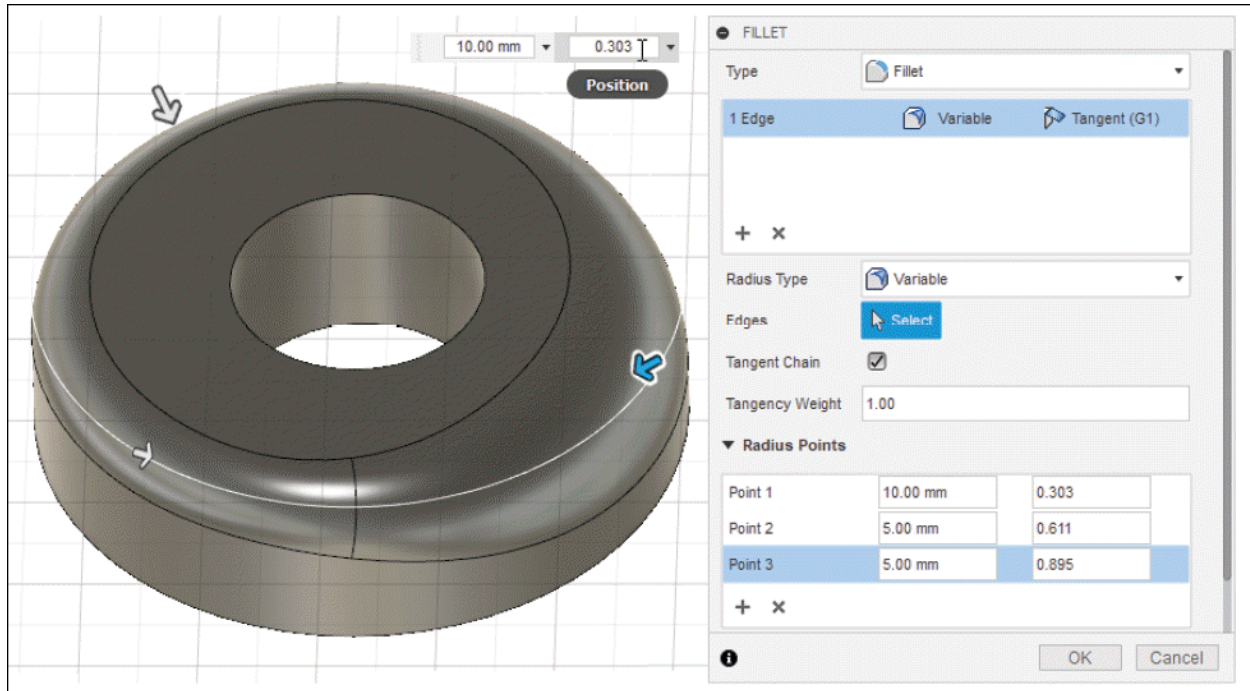

Figure-12. Preview of variable radius type
- Click on the edge to create points for applying fillet and specify radius for each point in the dialog box or dynamic input box; refer to Figure-12.